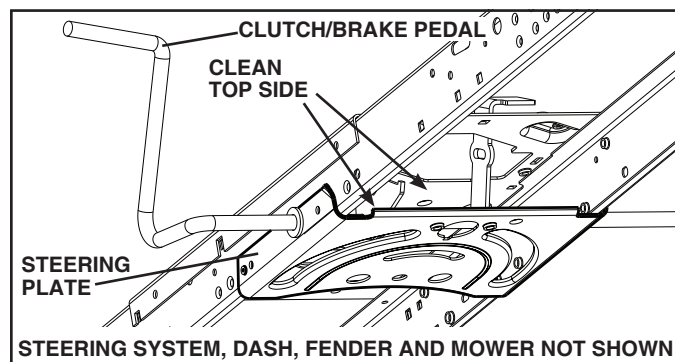

Fig. 24
- Clean debris from steering plate. Debris can restrict clutch/brake pedal shaft movement, causing belt slip and loss of drive. See Fig. 24.